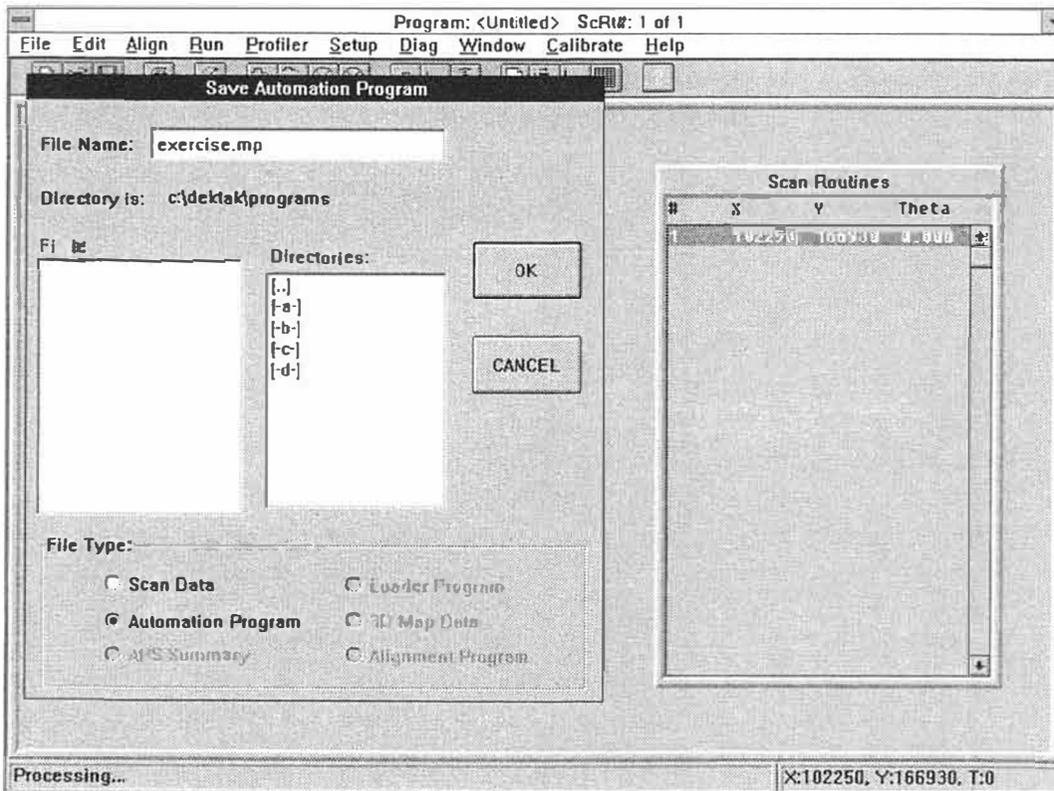

Figure 4-15. Automation Program File Name
1. Click-on "WINDOW" from the system menu bar and click-on "Automation Programs" from the programs menu. The Automation Programs screen will be displayed (Figure 4-15).
3. Click-on "Save As. . ." from the File Menu. A pop-up window is displayed requesting file name under which the Automation Program is to be saved (see Figure 4-15).